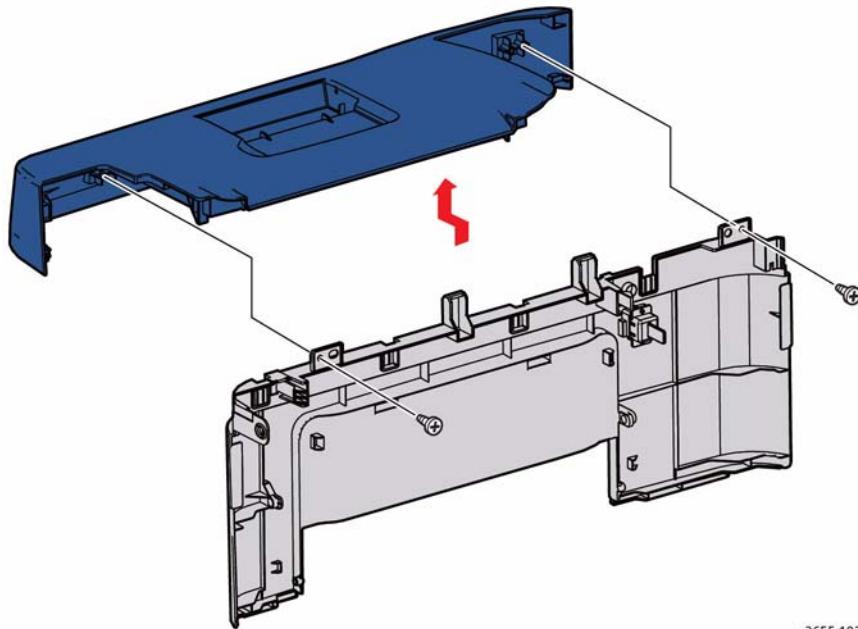

Figure 2 Separate the Front Cover Assembly
5. Refer to Figure 2 to locate and remove 2 screws (silver, tapping, M3, 8mm) and release 3 bosses that secure the Top Cover to the Front Cover.